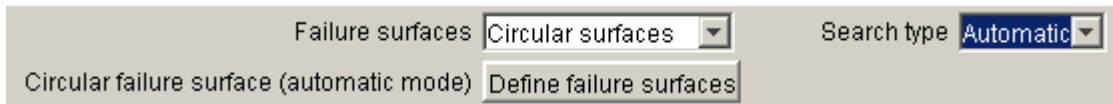

Figure 98: failure surfaces dialogue box: circular failure surfaces, automatic search
- Circular failure surfaces (automatic search): "Circular surfaces" choice and "Automatic" search type (Figure 98).